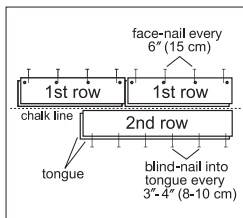

Figure 7
- Use the longest, straightest boards available for the first two rows. For random and alternate width products, use the widest plank for the first row. Align tongue of first row on chalk line. The groove should be facing the starting wall. Pre-drill 1/2" (13 mm) from back (groove) edge, 1"-2" (2.5-5 cm) from each end, and at 6" (15 cm) intervals when possible (Figure 7). Fasten using 4d or 6d finishing nails or 1" (2.5 cm) pneumatic finish nails/brads. Countersink the nails.